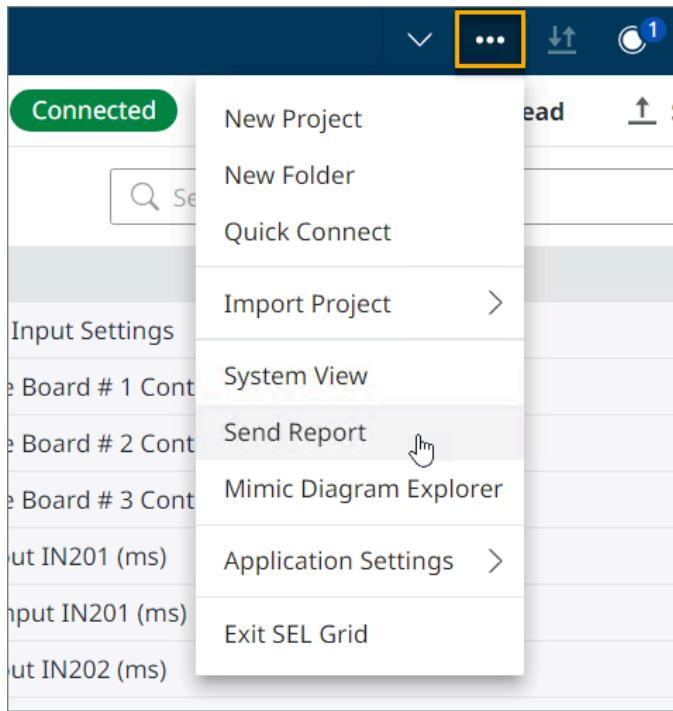

Figure 2.14 Opening the Send Report
Step 12. You can also access the Send Report by selecting the ellipsis button in the Title Bar and selecting **Send Report**, as shown in *Figure 2.14*.